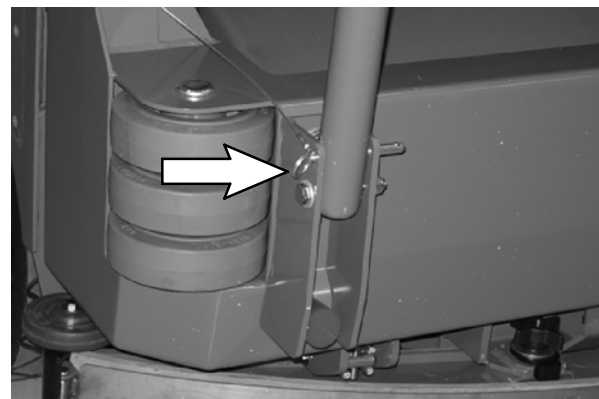

FIG. 6
7. To engage the rear squeegee guard, pull the pin (9) from the squeegee guard bracket (1), lower the rear squeegee guard, and reinsert the pin into the squeegee guard bracket. Refer to Fig. 6.
8. To disengage the rear squeegee guard, pull the pin from the squeegee guard bracket (1), lift the rear squeegee guard (6), and reinsert the pin into the squeegee guard bracket. Refer to Fig. 6.